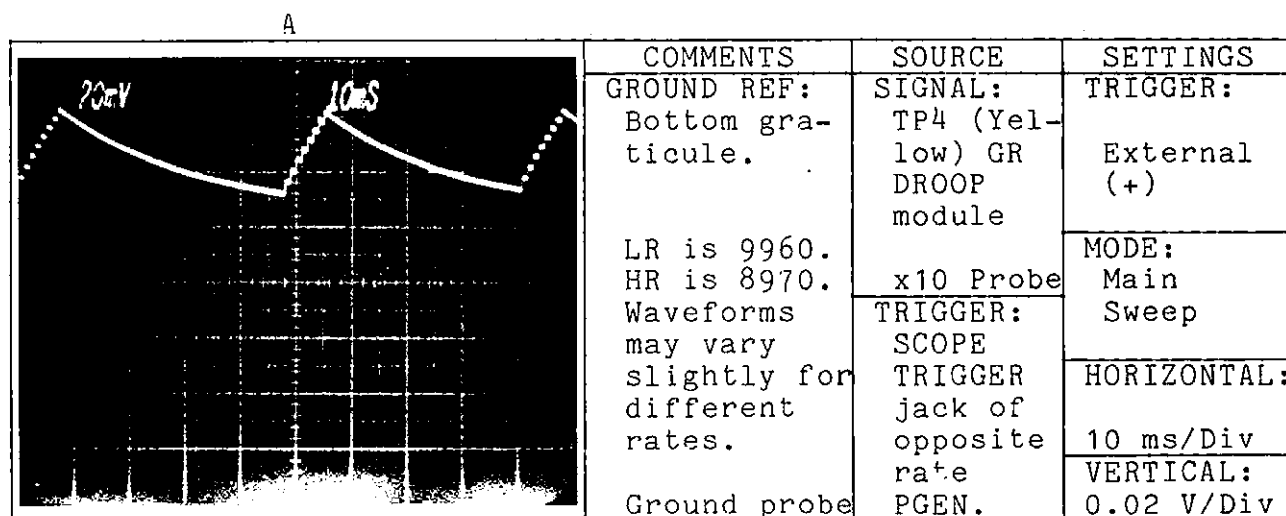

Figure 2.27. Crossing Ladder Waveforms
m. Adjust R1 counterclockwise until a stable ladder waveform appears. Both the stable and crossing ladder waveforms will be varying in amplitude. Adjust R1 counterclockwise until the stable waveform reaches +1.4VDC when the crossing ladder waveform nears point A in Figure 2.27. The crossing ladder waveform should be +1.4VDC near point A in Figure 2.27.